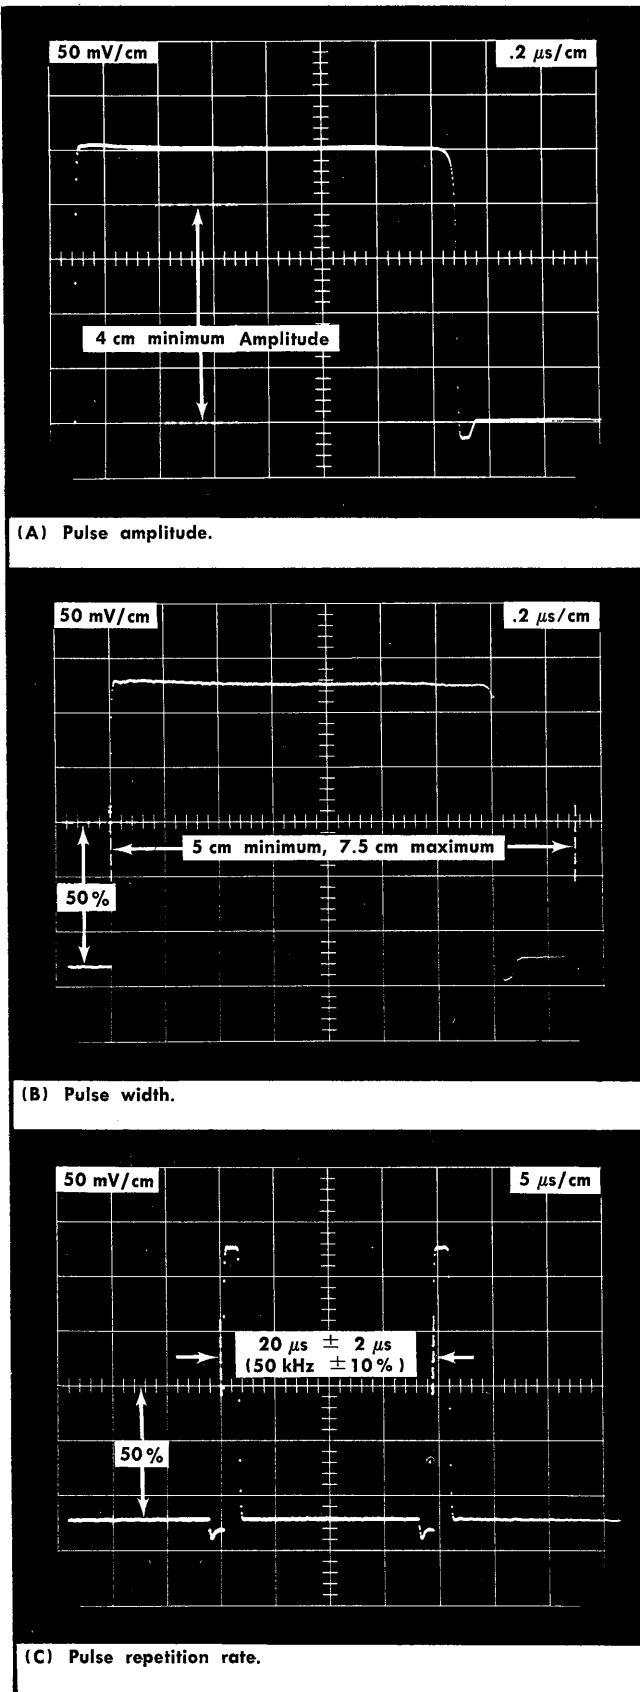

Fig. 5-12. Typical displays used in steps 13, 14 and 15.
c. Set the Equivalent Time/cm switch to .5 μ s calibrated, and set the Time Position control to obtain a two-pulse display; see Fig. 5-12. Measure the time between positive-going portions of the pulses.